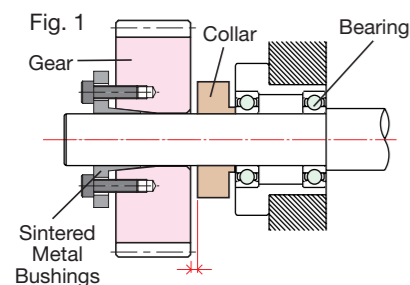

Fig. 1 Clearance (Assembly conditions require clearance of 1 mm or more)
- ① Shaft diameter recommended tolerance is h7. The limit is h8, but we recommend h6 when minimizing runout. Use 1.6a as reference for the surface roughness of the shaft diameter.
- ② Wipe away any debris, dirt or oil on the shaft surface and hole of the fastened section with thinner or the like, and lightly apply hydraulic oil #68. Do not apply molybdenum-based oil or oil with additives, as this may cause reduced fastening torque or slippage.
- ③ Pass completely through the shaft while pressing the bushing flange against the gear before tightening. Removal will not be possible, so be sure to leave a clearance of 1mm or more on the gear rear surface side. (Fig.1)